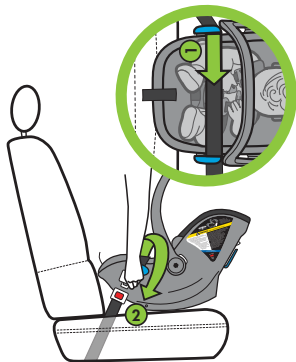

Figure 77b
- Route the lap belt through both blue Vehicle Lap Belt Guides and buckle vehicle belt as shown in **Figure 77b**.